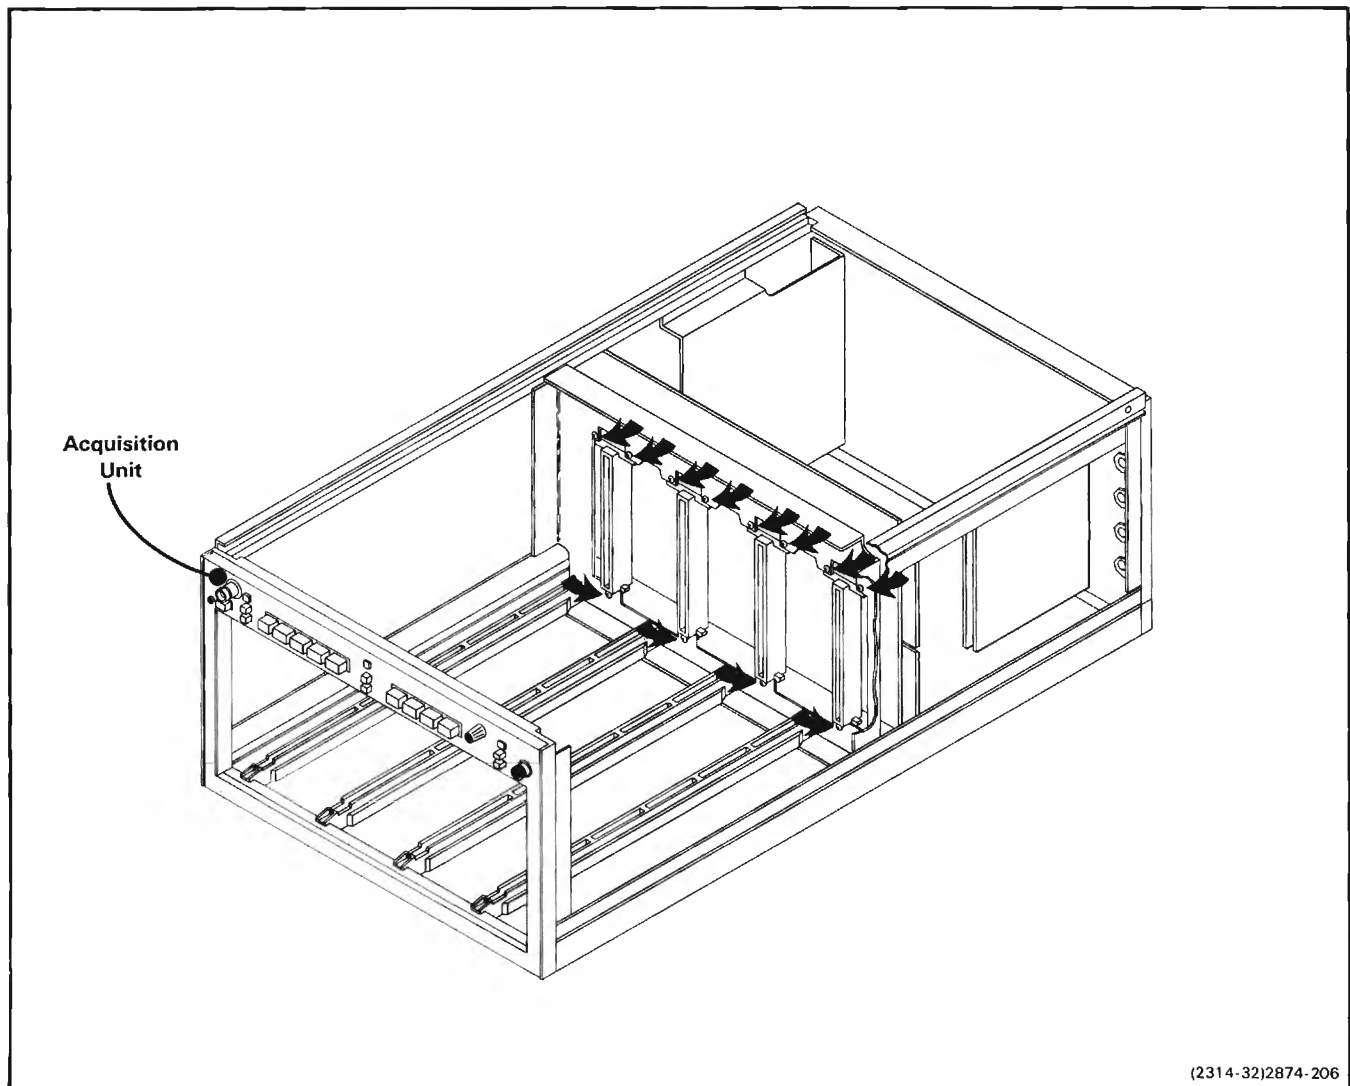

Figure 3-14. Location of securing screws used for A11-Main Interface board removal.
3. Remove the screws from inside each plug-in compartment which hold the plug-in interface connectors to the chassis (see Fig. 3-14). Also remove the screws which hold the ground straps to the chassis.